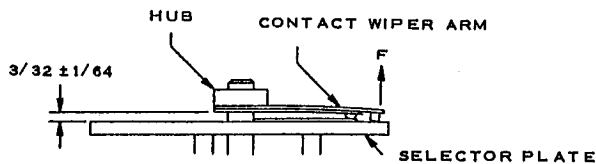

Figure 24. Wiper Arm Lateral Adjustment.
3. Inner blade of the wiper arm is set so that it is approximately 3/32" from the surface of the selector plate as shown in *Figure 24*. Force "F" of outer contact must be from 1 3/4 to 2 3/4 ounces.